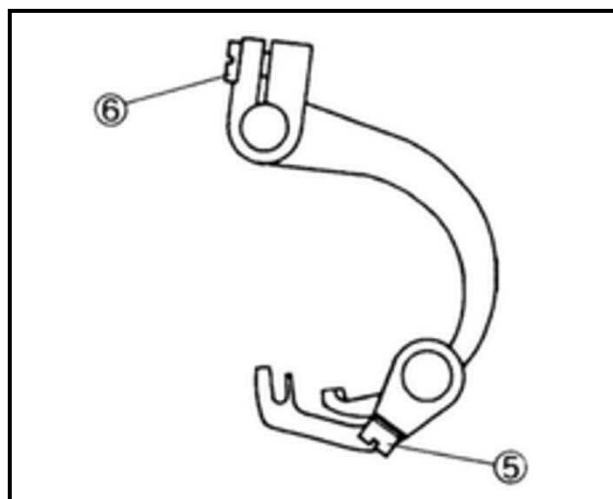

Fig.51
放松螺钉⑥去调整。(Fig.51)
Loosen the screw⑥ to adjust them. (Fig.51)